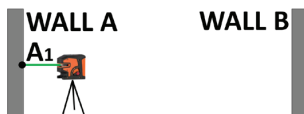

Figure 22
1. Set laser next to Wall A. Mark beam height on Wall A as point A1. (Figure 22)